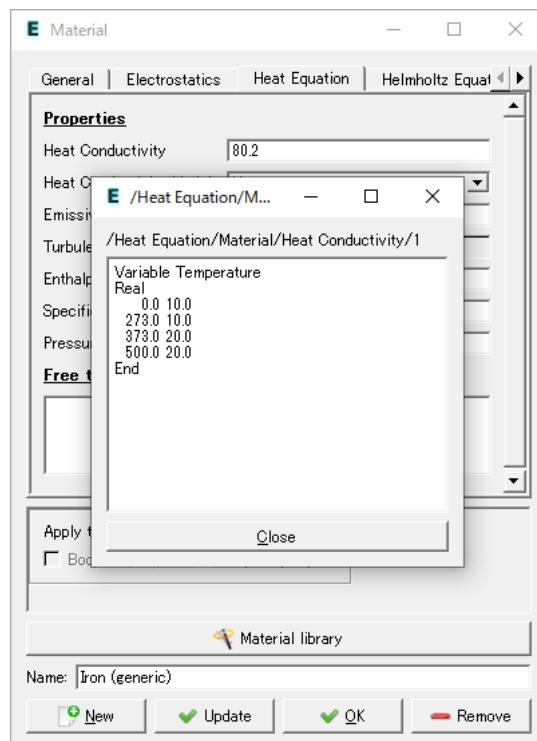

Figure 4.6: Text edit extension of a line edit box is activated by pressing Enter.
**Note:** If you set focus in a line edit box of a dynamical menu and press Enter, a small text edit dialog will pop up. This allows the input of more complicated expressions than just constants. As an example, go to *Model → Material* and choose *Add...* Place the cursor in the “Heat conductivity” line edit box of “Heat equation” and press Enter. You can then define the heat conductivity as a function of temperature as a piecewise linear function. An example is show in Figure 4.6. In this case, the heat conductivity gets value 10 if the temperature is less than 273 degrees. It then rises from 10 to 20 between 273 and 373 degrees, and remains constant 20 above 373 degrees.